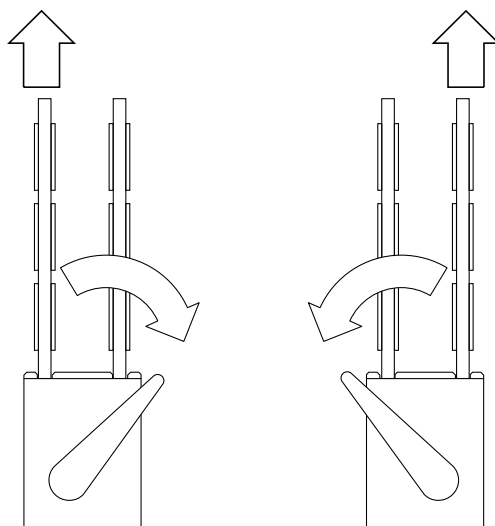

Figure 2-6 DIMM Ejection Levers
- Use your fingers or the eraser end of a pencil to move the ejection lever away from the DIMM that you want to remove. Ejection levers are greatly enlarged to show detail in Figure 2-6.